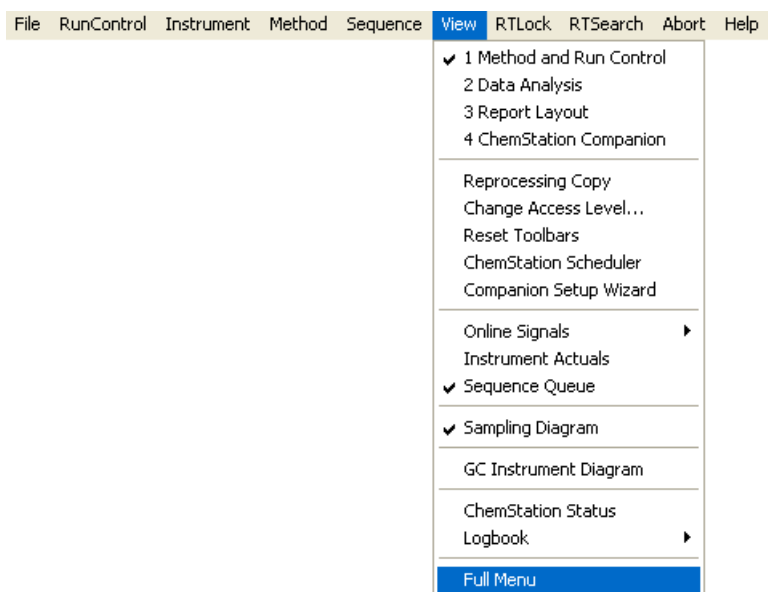

Figure 4 Viewing the Full Menu in Agilent GC ChemStation
- 1 To access **Instrument Configuration**, select **View > Full Menu** in the data system's top menu (Figure 4). This allows access to special menu items in the data system.